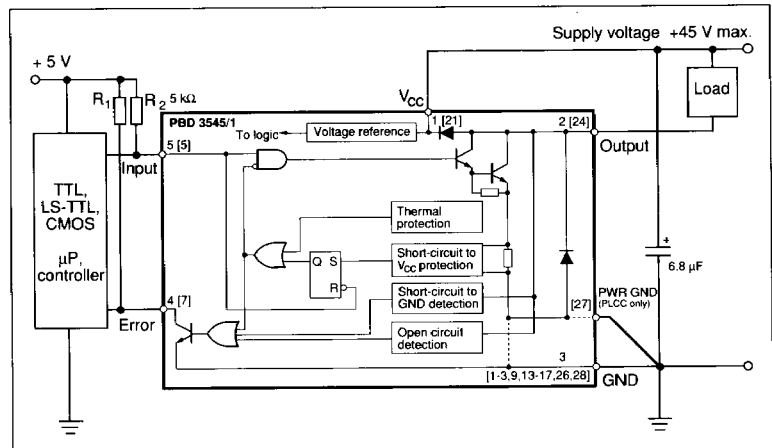

Figure 19. Typical application. Pin numbers refer to TO 220 package.
3. Connect Input and Error via pull-up resistors to the appropriate logic supply level or  $V_{CC}$  to obtain highest noise immunity. See figure 19. The resistor  $R_1$